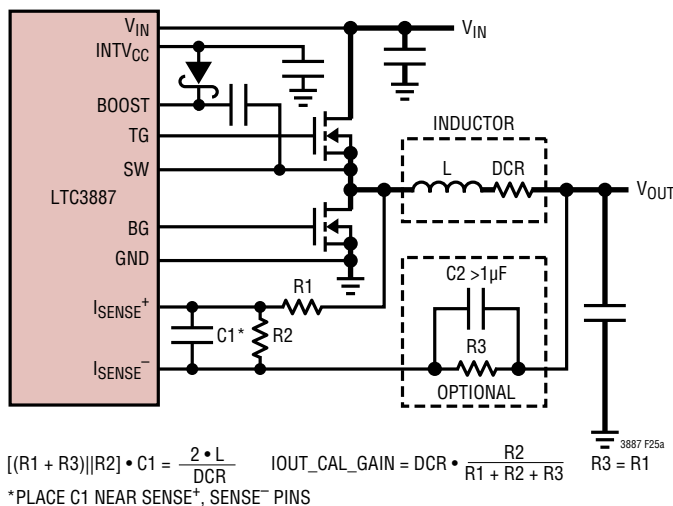

Figure 25a. Inductor DCR Current Sense Circuit
sharing between power stages. If DCR sensing is used (Figure 25a), sense resistor R1 should be placed close to the switching node (SW) to prevent noise from coupling into sensitive small-signal nodes. The capacitor C1 should be placed close to the IC pins. This impedance difference can result in loss of accuracy in the current reading of the ADC. The current reading accuracy can be improved by matching the impedance of the two I_{SENSE} inputs. To accomplish this add a series resistor between V_{OUT} and I_{SENSE}⁻ equal to R1. A capacitor of 1μF or greater should be placed in parallel with this resistor. If the peak voltage is <75mV at room temperature, R2 is not required.
For applications requiring the highest possible efficiency at high load currents, the LTC3887 is capable of sensing the voltage drop across the inductor DCR, as shown in Figure 25a. The DCR of the inductor represents the small amount of DC winding resistance of the copper, which can be less than 1mΩ for today's low value, high current inductors. In a high current application requiring such an inductor, conduction loss through a sense resistor would cost a few points of efficiency compared to DCR sensing.
C1 is usually selected to be in the range of 0.047µF to 4.7µF. This forces $R1||R2$ to be approximately 2k. This resistance minimizes errors caused by the SENSE pin leakage currents. Adding optional elements R3 and C2 shown in Figure 25a will minimize offset errors associated with these leakage currents.